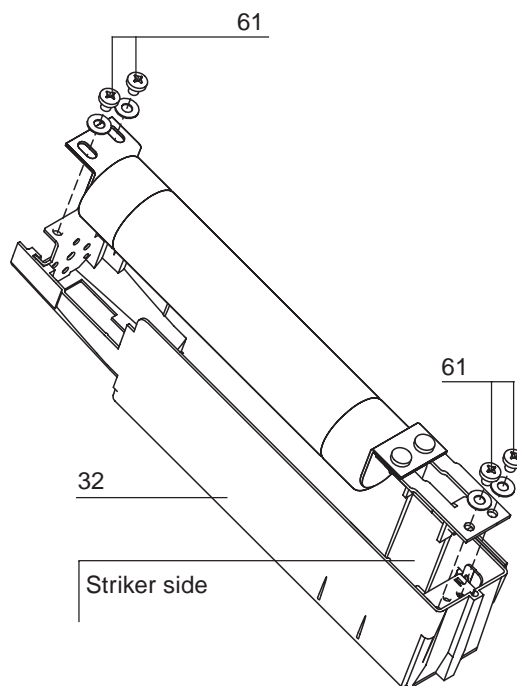

Fig. 19b
The fuseholder (32) (fig. 19b) is preset to take fuses with fixing centre distance of 553 mm. For smaller sizes, three adapters are needed, as indicated below:
- adapter (51) for fuses with fixing centre distance  $l = 235$  mm
- adapter (52) for fuses with fixing centre distance  $l = 305$  mm
- adapter (53) for fuses with fixing centre distance  $l = 454$  mm.
### b) Mounting the fuses (fig. 19b)